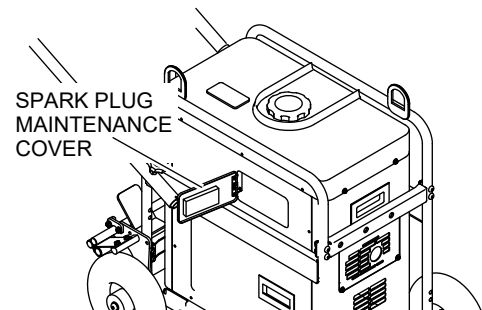

Figure 42. Spark Plug Maintenance Door
2. Open the spark plug maintenance door (Figure 42).